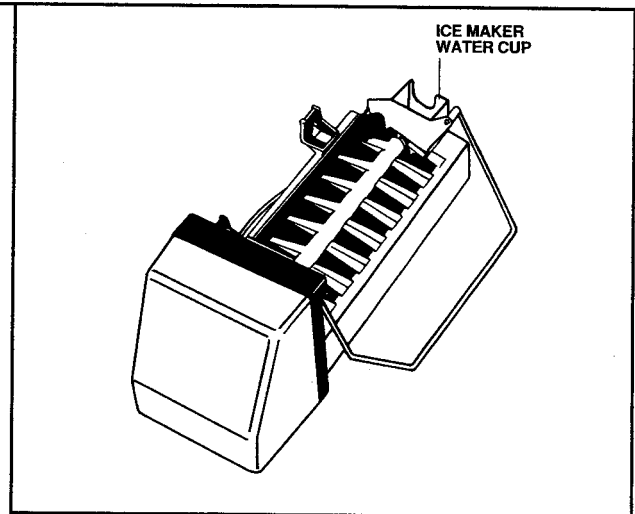

Figure 12
- b. Slip the stainless steel clip over the wall of the water cup. See Figures 12 and 13.